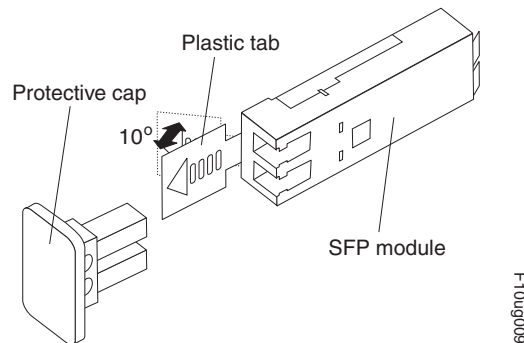

Figure 70. Unlocking the SFP module latch - plastic variety
- For SFP modules that contain plastic tabs, unlock the SFP module latch by pulling the plastic tab outward 10°, as shown in Figure 70.